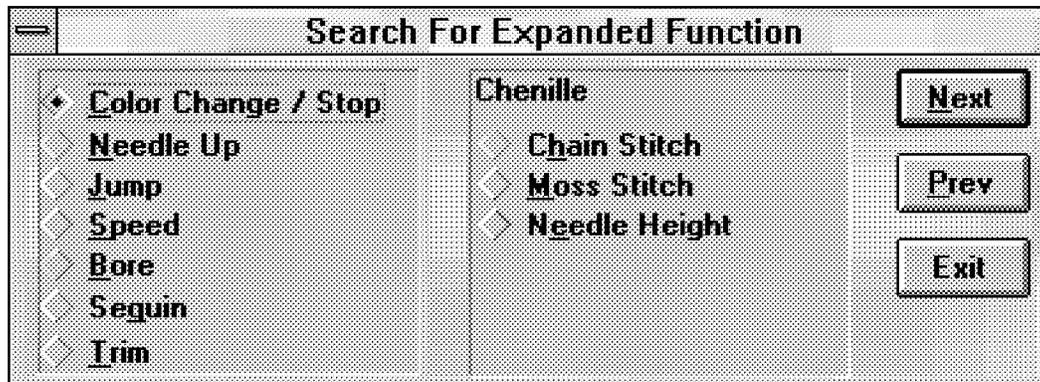

Figure 1-10
5. Depending on the type of design, one of the Search dialog boxes as shown in Figure 1-9 and Figure 1-10 will appear.